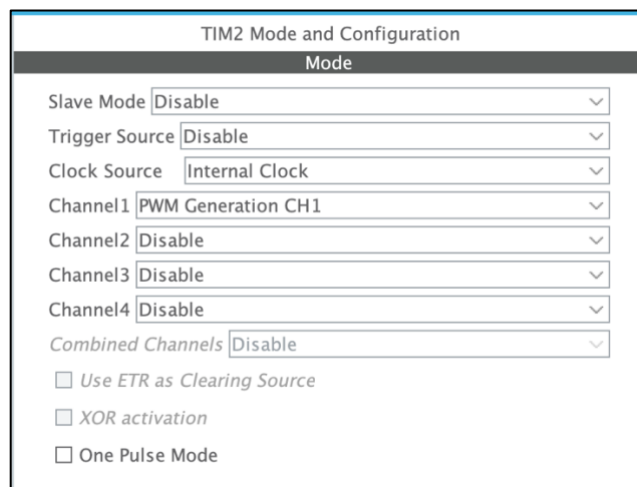

Figure 3: Timer Mode and Configuration
3. Read through **stm32f411re datasheet** (included in MC Lab resources folder) and understand how the TIMx timer you chose is scaled / divided from the internal clock. Identify the Advanced Peripheral Bus (APB) to which your chosen timer connected. (Hint: check Figure 3 of stm32f411re datasheet).